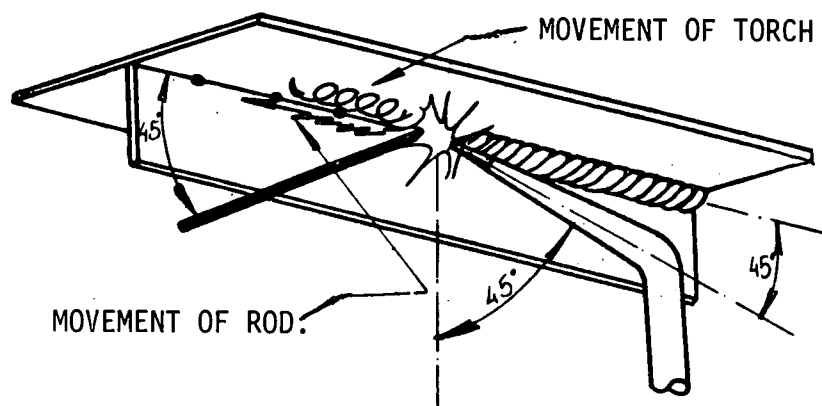

Fig. 1
- a) Incline the tip and the filler rod (fig. 1).
- b) Oscillate the tip and rod (fig. 1).